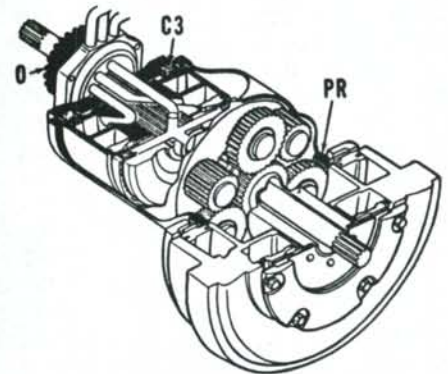

Fig. 116—With clutch C-3 engaged, output gear (O) is coupled to planetary ring gear (PR) (black shading), making planetary ring gear the output drive unit.
CLUTCH C-3 (Fig. 116) when hydraulically engaged, couples the planetary ring gear (PR) to output shaft (O). Clutch C-3 is hydraulically engaged in Intermediate (2) and High (3) forward speeds.
NOTE: High (forward) speed is obtained by pressurizing Clutch C-2 (Fig. 115) and Clutch C-3 (Fig. 116), coupling both the Planet Carrier (PC) and Planetary Ring Gear (PR) to Output shaft (O).